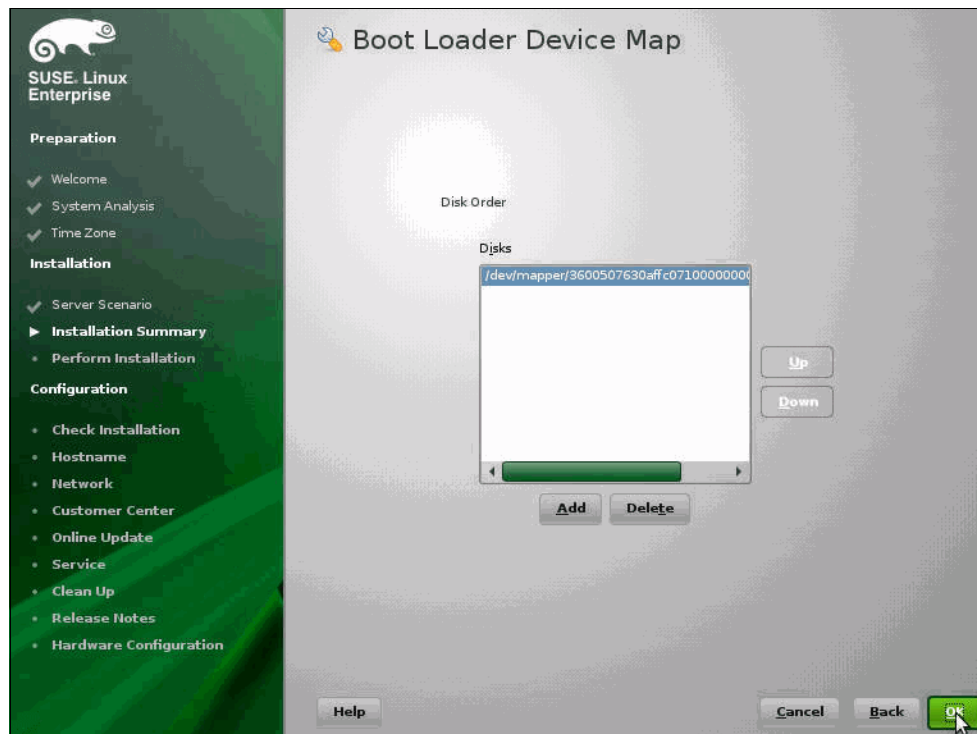

Figure 3-65 Changing the Boot Loader option
18. Click **Boot Loader Installation Details**, as shown in Figure 3-65. Accept the multipath as a boot loader by clicking **OK** as shown in Figure 3-65.